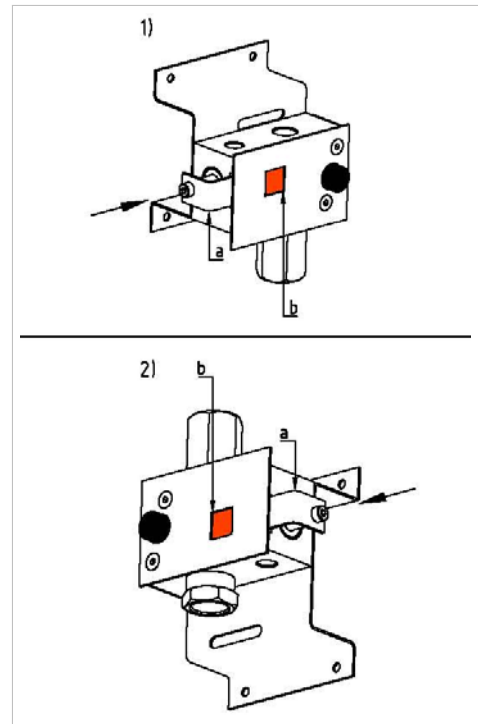

Figure 6: Position of RTC visual indicator
6. Check the position of the visual indicator. The visual indicator must be positioned at „green“; if not, press the visual indicator angle towards the valve until the visual indicator is at „green“ (refer to Figure 6)!
If the visual indicator is no longer in „green“ position, or if the slider is activated at the RTC-CLOSE valve (Figure 6),  $CO_2$  might have been released into the system and all connected components might be under high pressure. Remove the  $CO_2$  bottle as described under *Restarting operation/reset*.